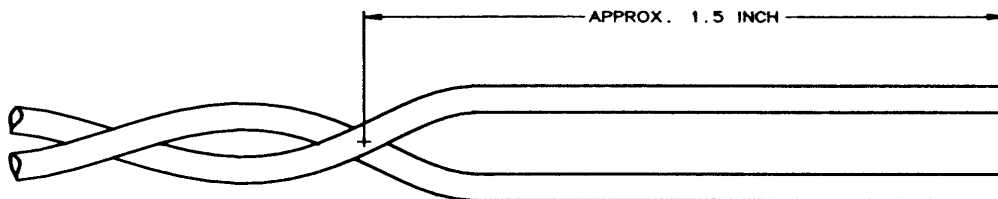

Figure 5-1. Untwisting and Straightening Twisted-Pair Cable
1. Untwist and straighten the wires for a length of approximately 1.5 inch (Figure 5-1).